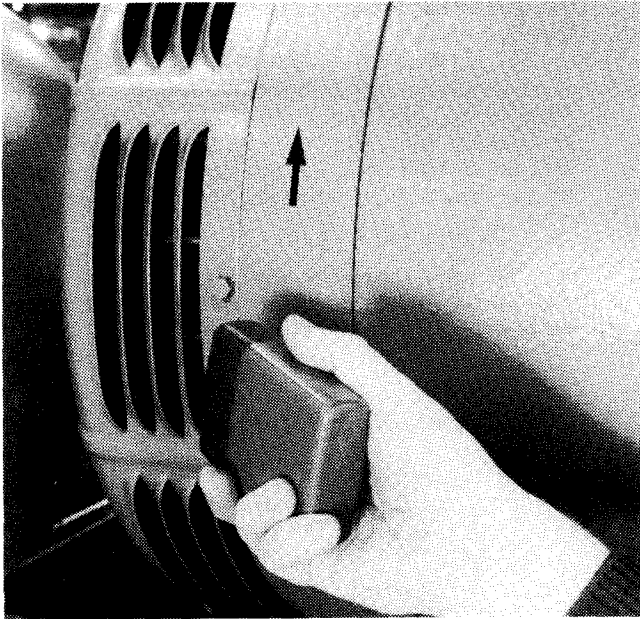

Fig. 18 Checking the direction of motor rotation
5.2 Start the motor and then turn it off again right away. Check to see that it rotates clockwise when viewed looking towards the exposed shaft end. If the motor rotates the wrong way, it may damage the compressor. Use a lamp to check the direction of motor rotation by observing the fan impeller inside one of the vents as illustrated in Fig. 18. The impeller should turn in the same direction as that shown by the arrow on the compressor bearing housing.